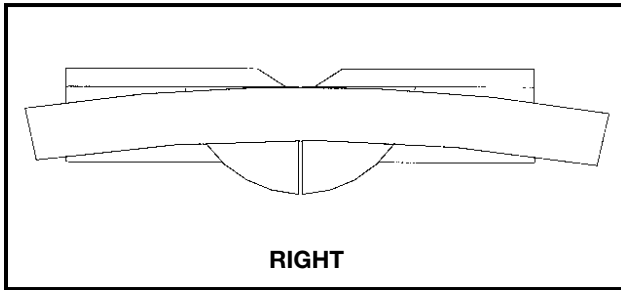

Fig. 39
1. When cutting flat pieces, first check to see if the material is bowed. If it is, make sure the material is positioned on the table as shown in Fig. 39.